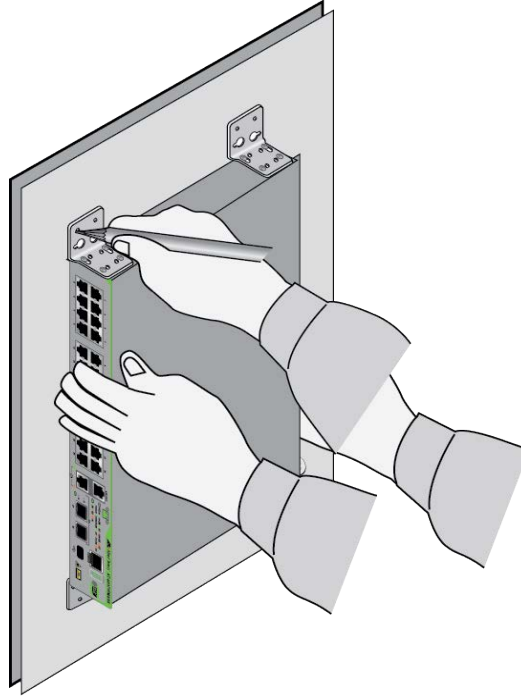

Figure 63. Marking the Locations of the Bracket Holes
4. Have another person hold the switch on the concrete wall at the selected location for the device while you use a pencil or pen to mark the wall with the locations of the holes in the brackets. Refer to Figure 63 on page 104.